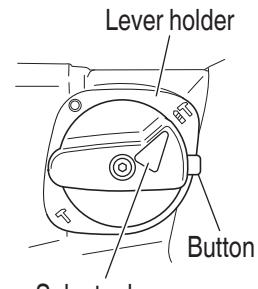

Fig. 5
**(1) Switching to “rotation + hammering”**
- Align ▲ of the selector lever and T of the lever holder as illustrated in Fig. 5.